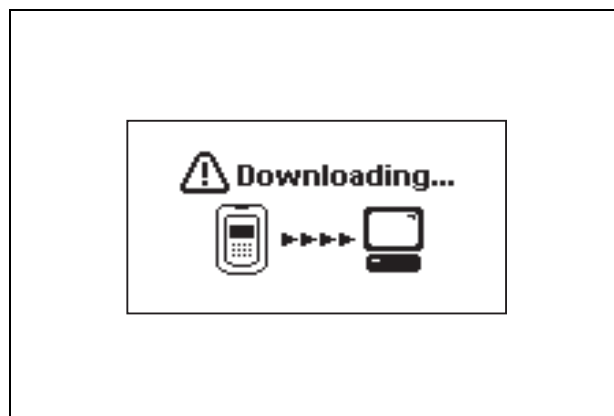

Figure 5.57
- While downloading the image data, the icon in Figure 5.57 is displayed on the recorder unit's display panel.